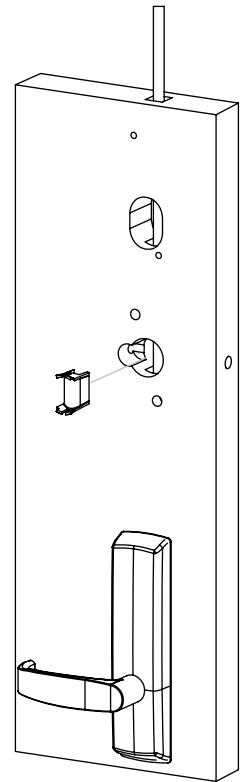

Figure 7-6B
2. Install plastic wire guide through reader prep from outside door surface before proceeding to Section 9. (Figure 7-6B)